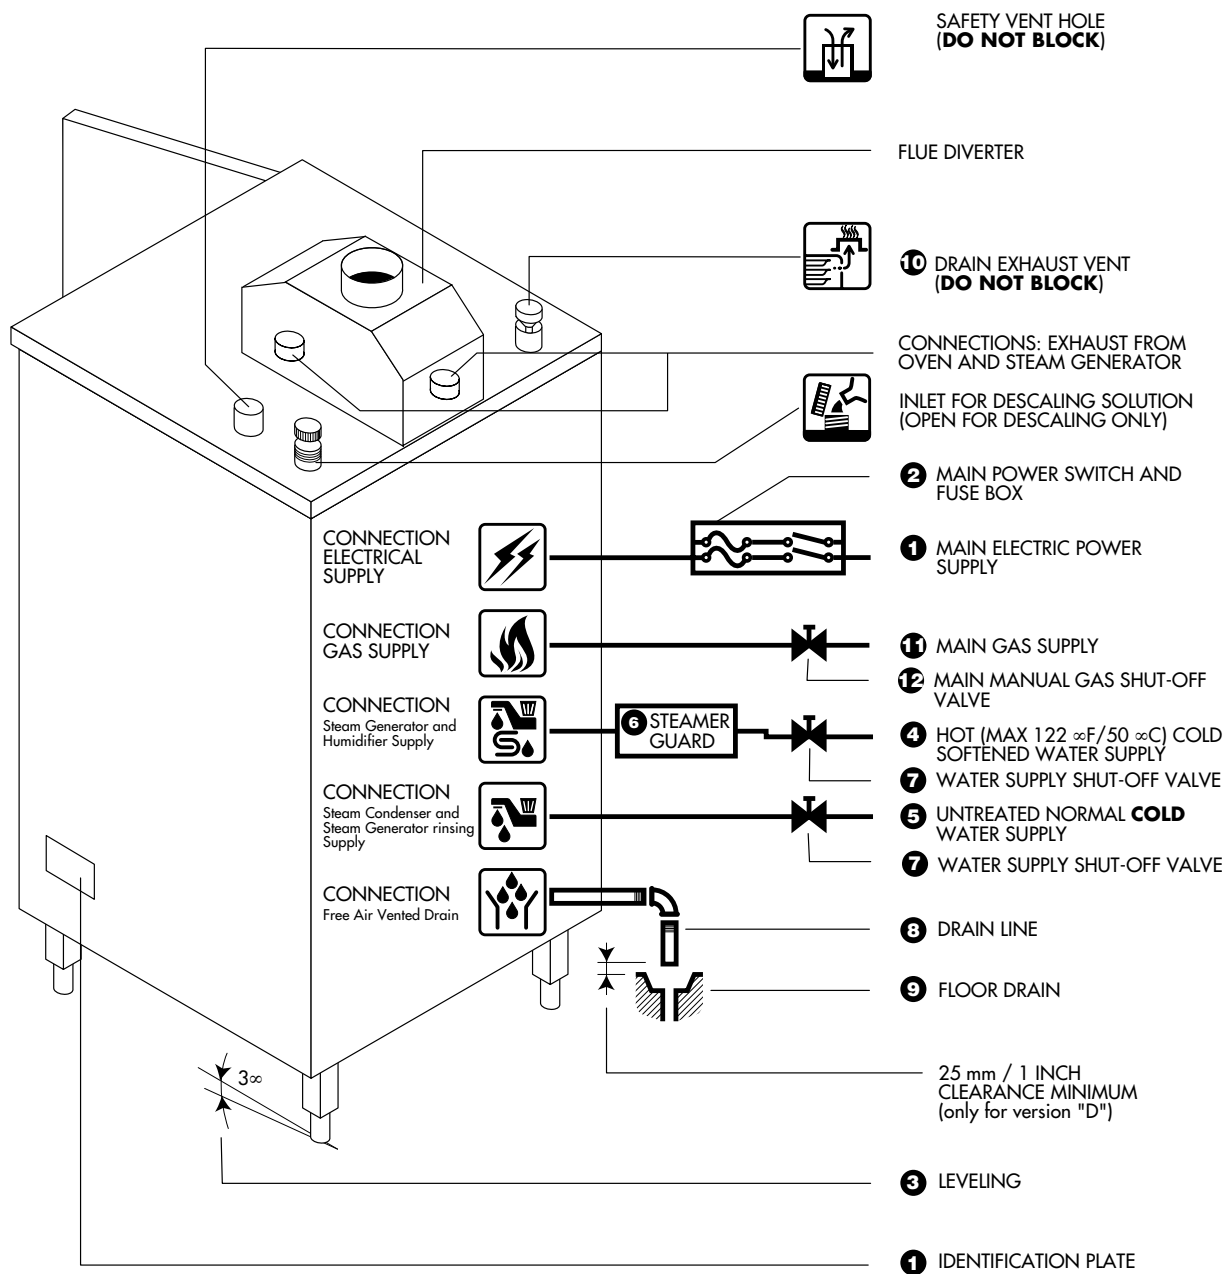

Figure 2-1
The plate is located on the right side of each unit as illustrated in Figures 2-1.
Installation of the Oven/Steamer is presented in two parts: preparation and installation. The Installation Check List, Table 2-1, lists the major tasks to be performed in a recommended sequence. Each item references the instructions for starting the task. Complete the preparation tasks in sequence, and then the installation tasks. Installation requirements may vary from site to site; adapt the check list accordingly. Schematic Installation Diagram, Figure 2.1, illustrates the utility lines and connections required to install the Oven/Steamer. The Dimension Drawings, Fig. 2-2, show the required utility connection points, dimensions, and clearances for each model.
- 12- Refer to figures 2-1 for the recommended component arrangements.